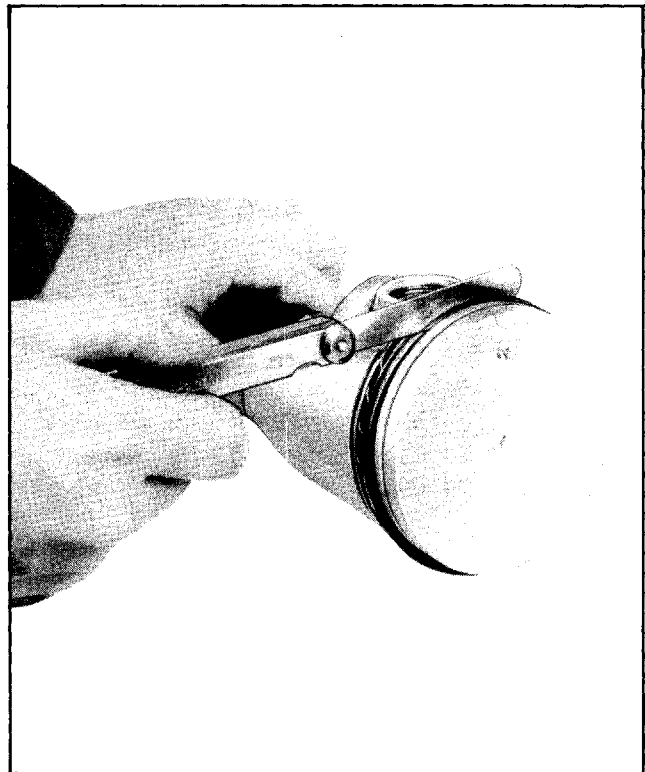

Fig. 6-68 Measuring Side Clearance of Ring in Groove
5. Measure side clearance of rings in ring groove (Fig. 6-68) as each ring is installed. Clearance with new pistons and rings should be as follows: